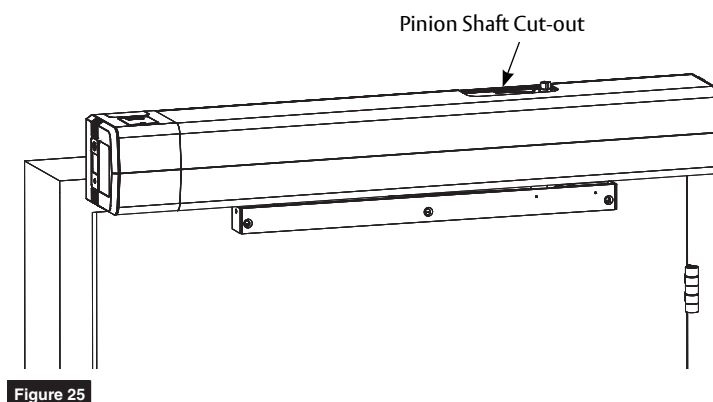

Figure 25
1. Align cut-outs in cover to pinion shafts. (Figure 25)